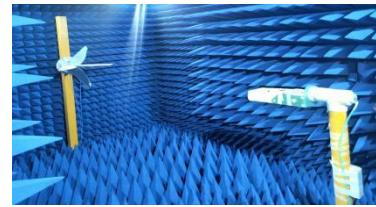

Figure.3
- B. The antenna under tested is arranged in the turned table and a decoupling sleeve is used to reduce feed line radiation (see figure. 3).